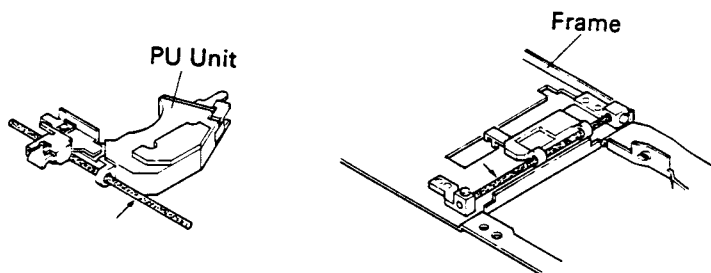

Fig. 19
1. After the unit is assembled, apply grease (C paste) to the shaft indicated by the arrow. (Fig. 19)